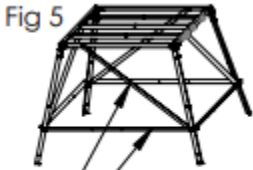

Fig 5
6. Attach 71" brace to the base on the narrow side using 1 - 3/8" x 1" bolt & 1 - 3/8" nylon lock nut using the same sequence as step 3. Repeat on the opposite side of base. Do not tighten these at this time. (Fig 5)
7. Attach 77 3/4" brace and the free end of 71" brace from step 6 to the leg using the same sequence as step 4. Repeat on the opposite side of base. Do not tighten these at this time. (Fig 5)
8. Attach the free end of 77 3/4" horizontal brace from step 7 to the opposite leg. (Fig 5)